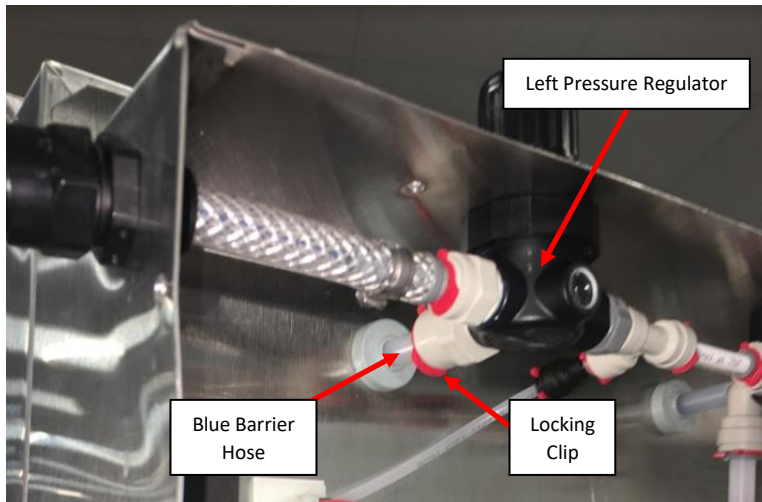

Figure L25: Left Tube inserted into the Left Regulator with Locking Clip Installed.
- c) Push the Rear Enclosure so the two hoses push through the Gray Sealing Grommets and inside the Rear Enclosure. **See Figure L25.**
- d) Align the Blue Barrier Hose on the LEFT with the John Guest Fitting attached to the Pressure Regulator on the LEFT and push the Left Pressure Regulator firmly to install the Barrier Tube fully. **See Figure L25.**